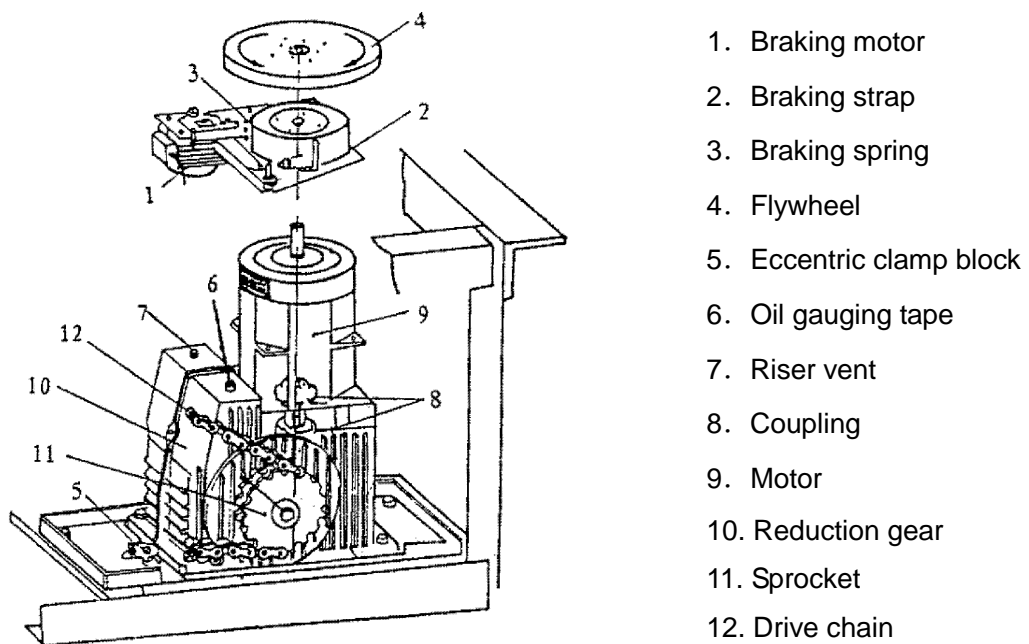

Figure 13 Transmission system
4.2 Drive machine, refer to Figure 13